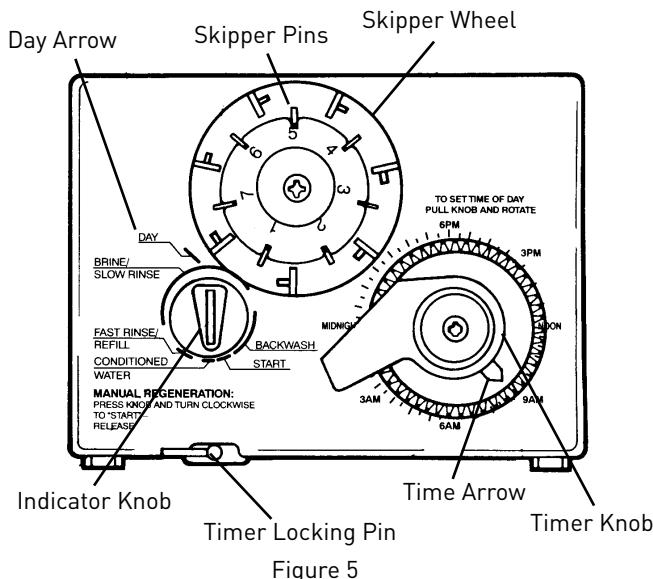
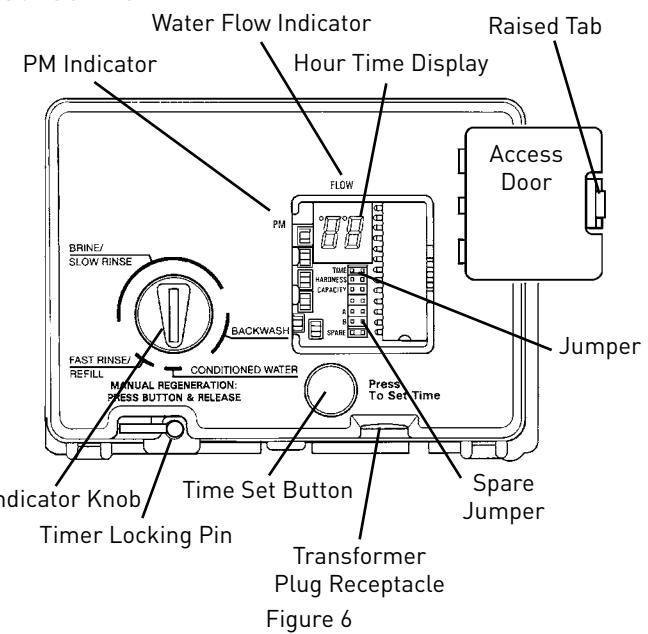

Figure 5
Figure 6
NOTE: The following steps will require turning the indicator knob (Figure 5 and Figure 6) to various positions. Manually rotate the camshaft COUNTERCLOCKWISE only until indicator knob points to desired position. See manual regeneration sections for each control's manual operation.
1. Set days of regeneration on skipper wheel (Figure 5).
NOTE: The Timer Locking Pin should always be horizontal (Figure 5) during operation.
Open the access door by pushing the raised tab on the door toward the left while pulling the tab out (Figure 6).
NOTE: The Timer Locking Pin should always be horizontal (Figure 6) during operation.
When abnormally high water usage exhausts your water conditioner's capacity ahead of schedule, an extra regeneration can be achieved. Depress the indicator knob on the 440i (Figure 5) with a wide-blade screwdriver and turn **COUNTERCLOCKWISE** to **START** to initiate a regeneration. For the 460i, simply depress the indicator knob (Figure 6). It will take a few minutes for regeneration to start. A normal regeneration will take approximately two hours.
Electricity is used only to run the control and to rotate the camshaft. All other functions are operated by water pressure. Therefore, in the event of a power outage, all the regeneration positions may be dialed manually by depressing the indicator knob and turning **COUNTERCLOCKWISE** (Figure 5 and Figure 6). The following cycle times should be used for proper regeneration: